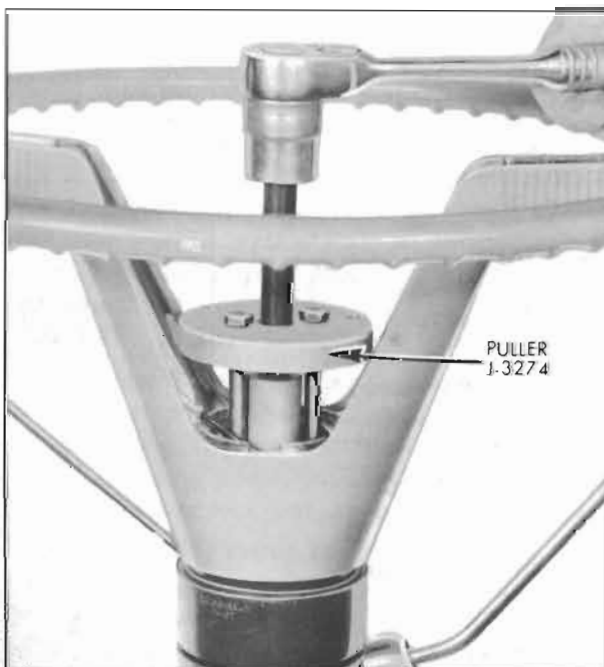

Figure 8-6—Removing Steering Wheel
3. Apply Puller J-3274 and pull wheel back to nut. See figure 8-6. NOTE: *If wheel hub is very tight on shaft, apply a moderate strain with puller then tap end of puller screw to break hub loose from shaft without distorting wheel hub.* Remove puller, nut, and steering wheel.